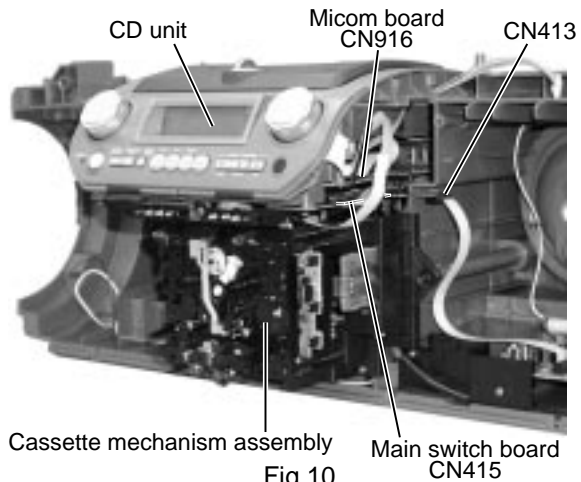

Fig.10
**■ Removing the cassette mechanism assembly (See Fig.10 and 11)**